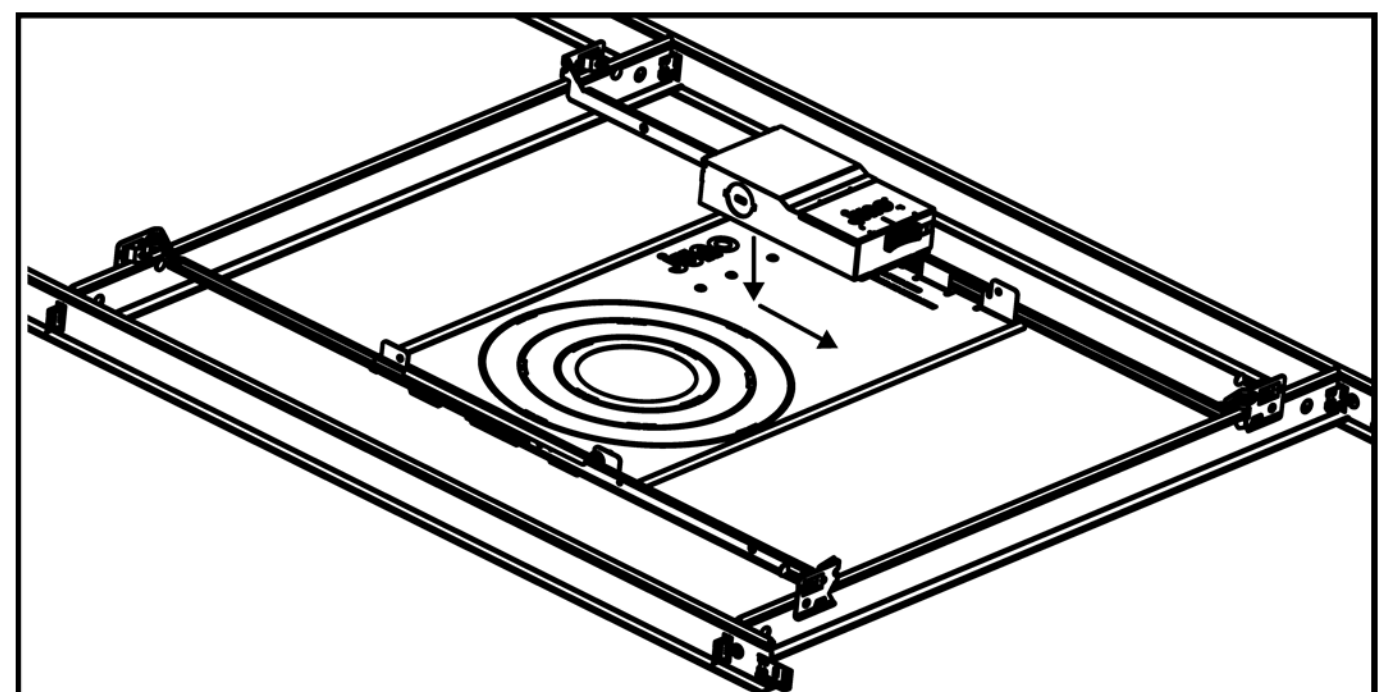

Figure 5
3. Secure Wafer Junction Box by placing it through the screw on the new construction plate and slide it down to secure it to the plate. See fixture installation instruction sheet for wiring method. (See Figure 5)